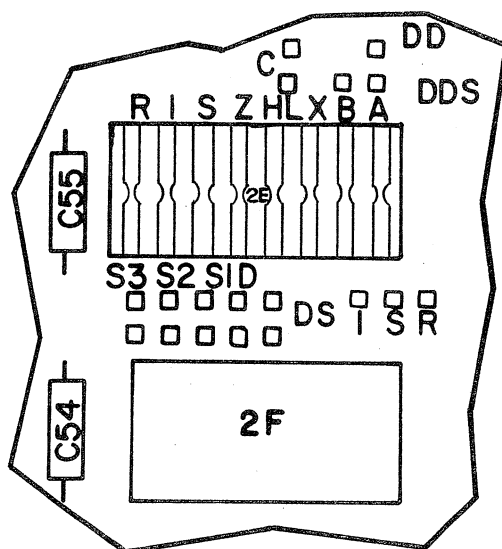

FIGURE 3-11. JUMPER PLUG SHUNT AND TERMINAL POSTS
2. Jumper plug DS terminal posts. See Figure 3-11.
2. Install jumper plug at D terminal posts. See Figure 3-11.
2. Cut away shunt I at 2E between pins 2 and 15. See Figure 3-11. (If Hard Sector selective feature has been installed, also cut away shunt S at 2E between pins 3 and 14.)
3. Add a jumper wire from pad I to one of the unused spare I/O pins (e.g., J1-2, 4, 6, or 8) pads. See Figure 3-11.